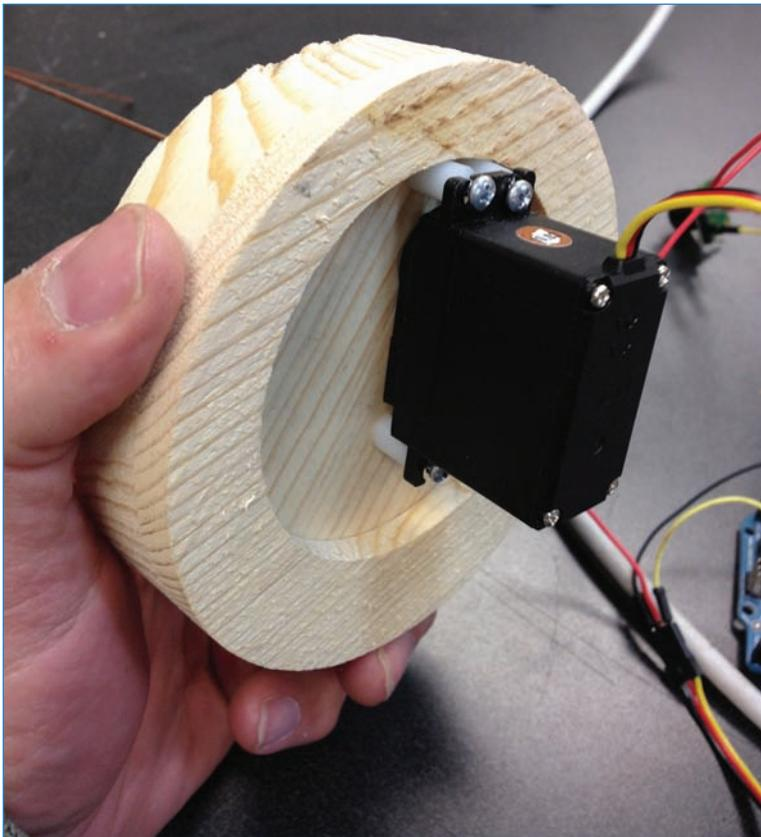

FIGURE 9.18 Attaching the motor with screws and stand-offs.
9. Connect the heavy wire to the hub. In my case, I used hot glue but you might decide you want a more robust attachment. You then thread the wire through the $\frac{3}{16}$ " hole you drilled in the top and when it's flush, attach it with the #4 \times $\frac{3}{4}$ " wood screws and $\frac{3}{8}$ " plastic standoffs, as shown in Figure 9.18.